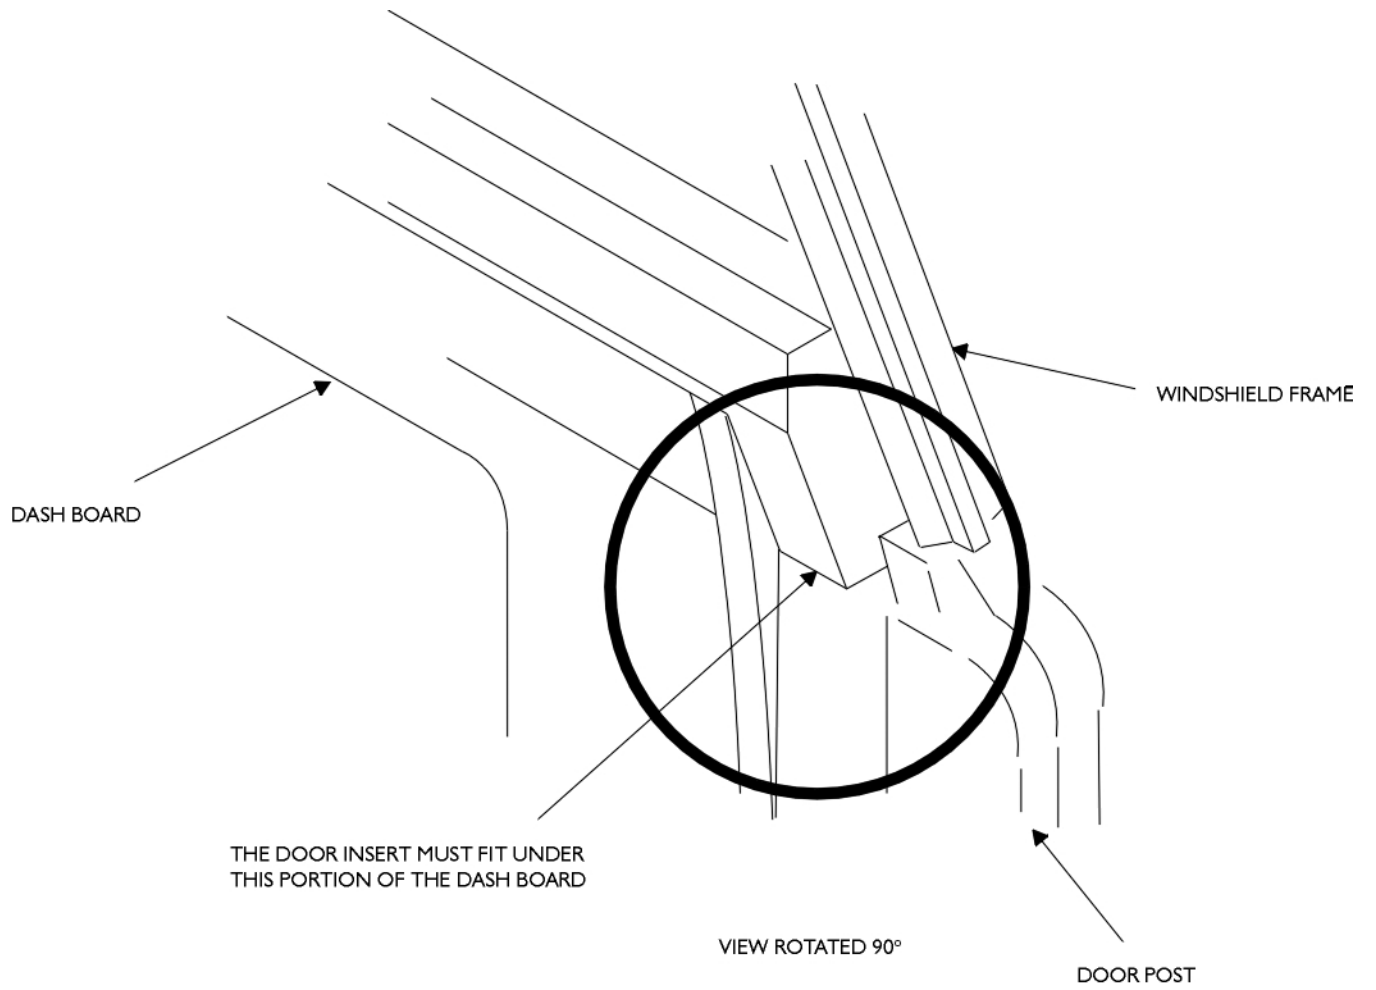

FIGURE 4
10. Position the top front of the door insert as shown in Figure 4.